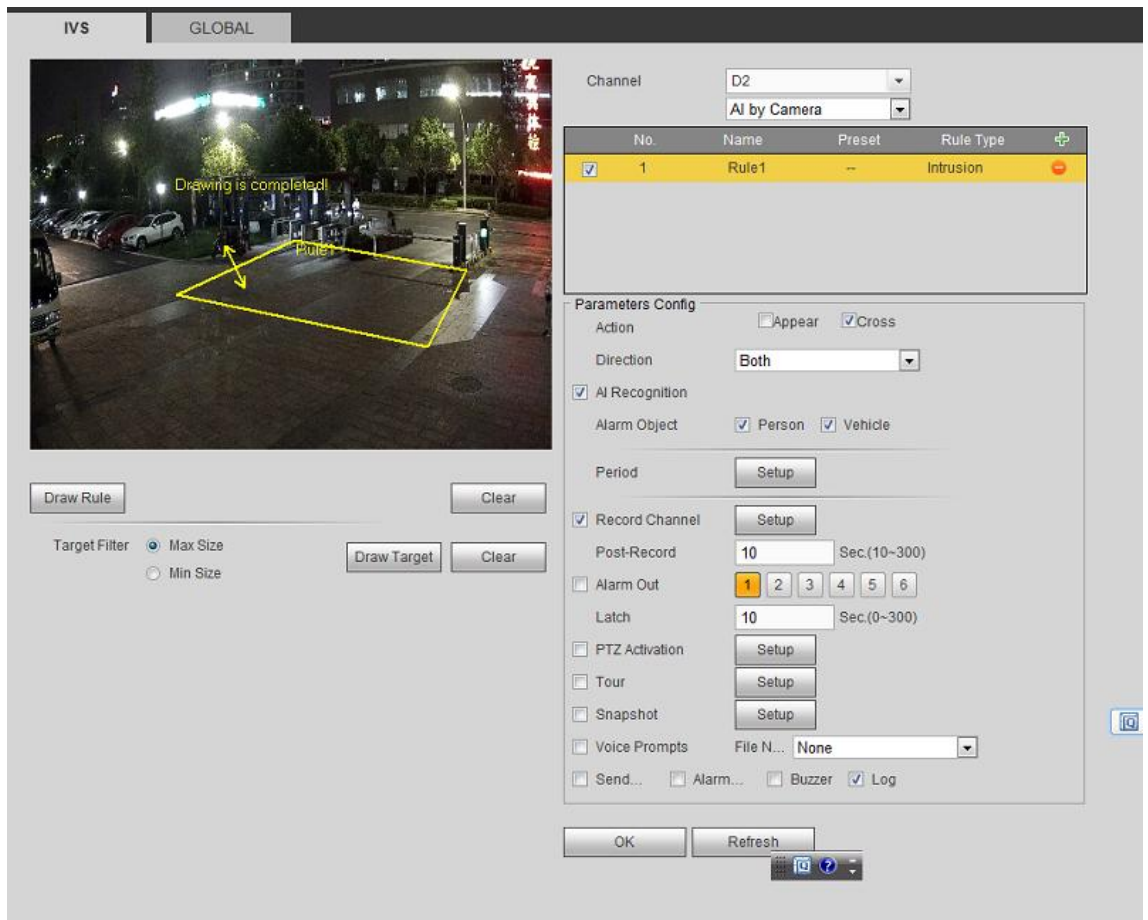

Figure 5-70
- When you select AI by camera, the system displays as Figure 5-70.